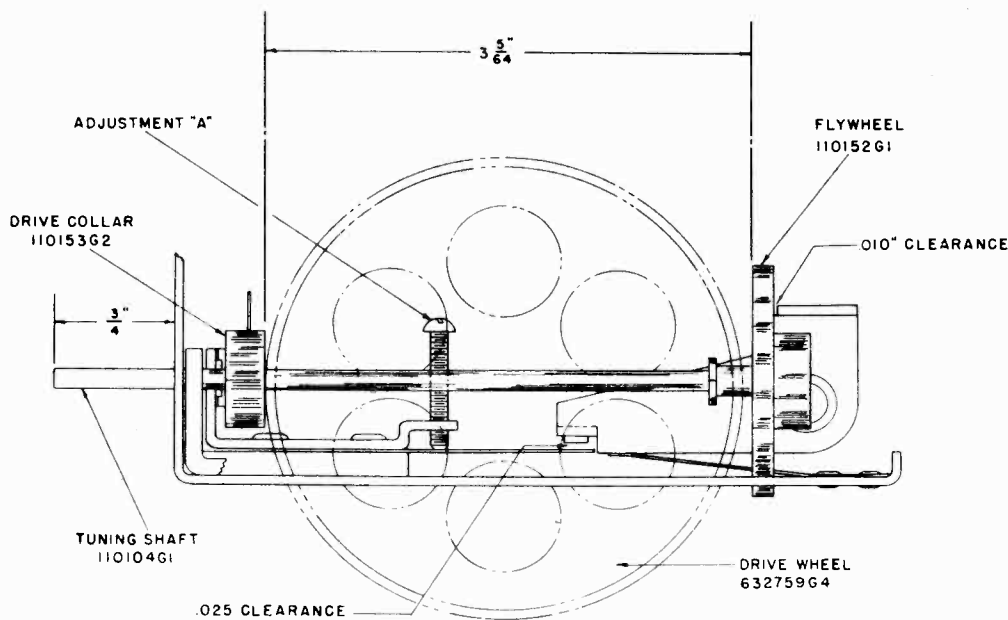
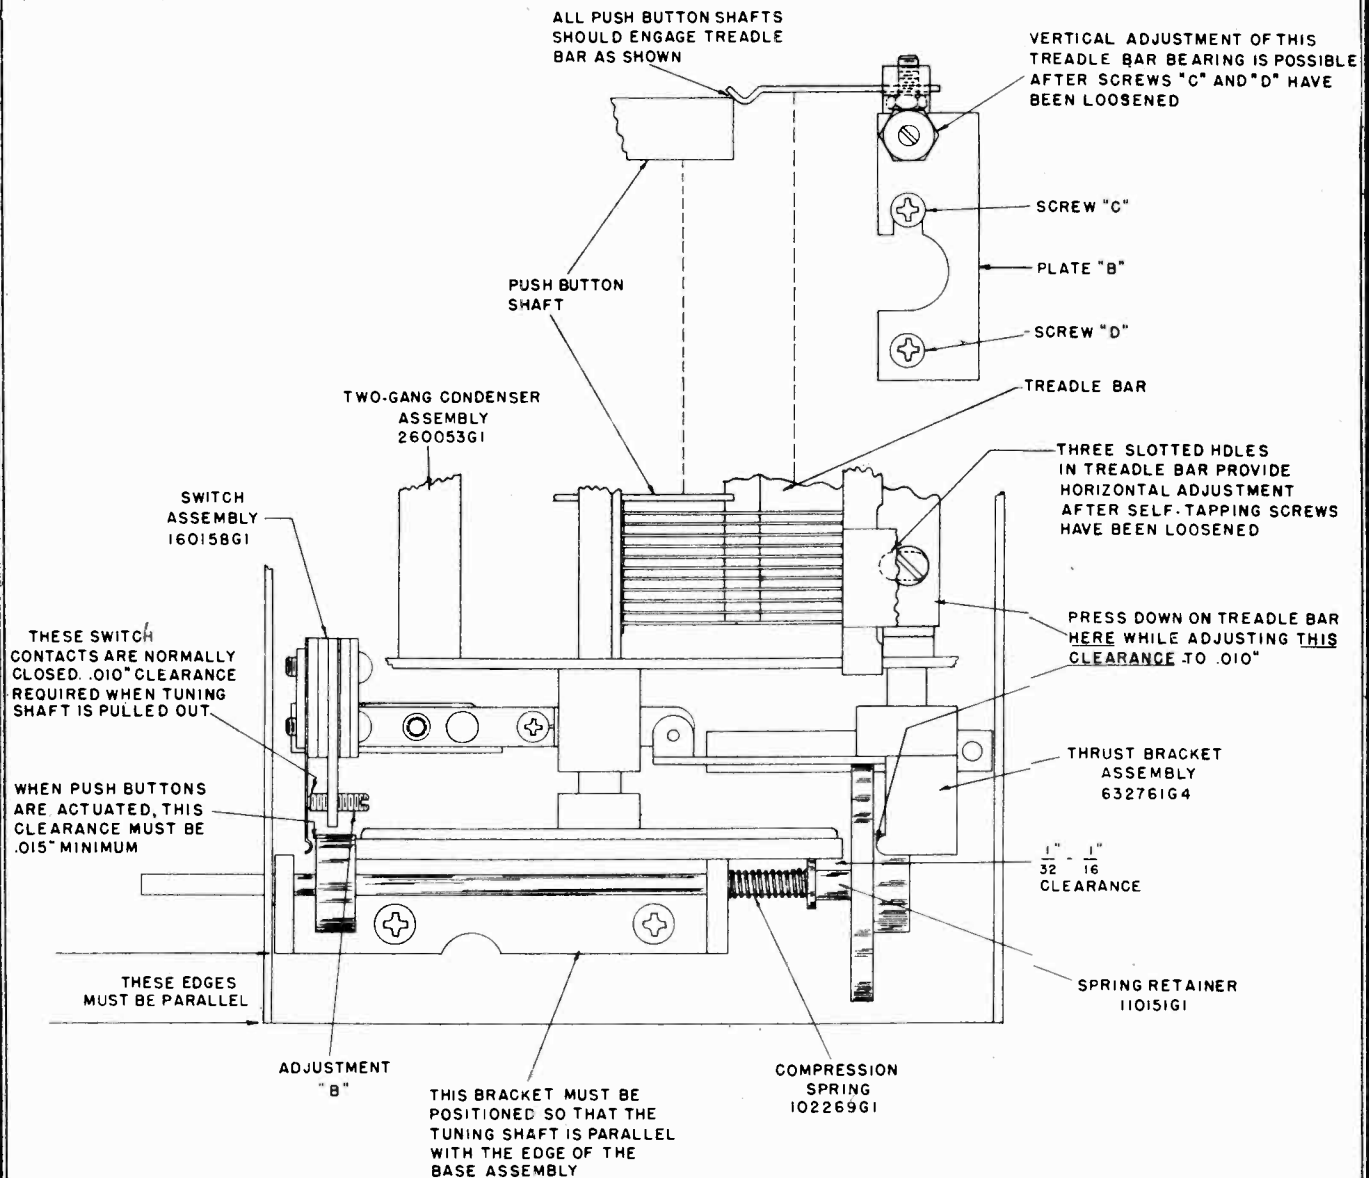

FIGURE 2
FIGURE 3
Whenever any of the mechanical parts in the condenser gang drive assembly require replacement due to rough handling or for any other reason, it is extremely important that clearances and adjustments shown on Figures 2 and 3 are affected; otherwise the tuning mechanism will be sluggish or it may slip during operation.
1. Assemble the Tuning Shaft, Drive Collar, Compression Spring, Spring Retainer and Flywheel in the manner shown on Figure 3. The Tuning Shaft must extend $\frac{3}{4}$ " from the front of the assembly and that the spacing between the rear of the Drive Collar and the front of the Flywheel must be $3\text{-}5/64$ " as specified on Figure 2. Any excess length in the Tuning Shaft may extend beyond the rear of the Flywheel.
2. The distance between the rubber-tired Drive Wheel and the smaller diameter section of the Spring Retainer must be $1/32$ " to $1/16$ ". This adjustment is effected by loosening the two No. 6 Allen set screws in the Drive Wheel hub and sliding the wheel on its shaft until the required clearance is obtained. When the adjustment is completed, tighten the two screws in the hub of the Drive Wheel. See Figure 3.
3. While pressing down on the Treadle Bar at the location shown on Figure 3, adjust the Thrust Bracket until the clearance between the rest of the Flywheel and the projection on the Thrust Bracket is $.010$ " as shown on the diagram. To make this adjustment, loosen the two No. 6 Allen set screws (use No. 6 Allen Wrench—Magnavox Part No. 800044G2) in the hub of Thrust Bracket and rotate the bracket until the specified clearance is obtained when the push buttons are NOT actuated. Tighten the two screws securely when the adjustment is completed. Press each push button and check that the Drive Collar is pushed away from the rubber-tired Drive Wheel.
4. Next, adjust the clearance in the muting switch contacts by turning the Phillips-head screw designated Adjustment "A" on Figure 2, until the specified clearance of $.025$ " is obtained (when the push buttons are NOT actuated.)
5. While pressing any one of the push buttons in as far as possible, turn the screw designated Adjustment "B" (Figure 3) until a minimum clearance of $.015$ " is obtained between the front surface of the Drive Collar and the switch spring directly in front of it. This setting should also cause a minimum clearance of $.010$ " between the switch contacts actuated
This can usually be accomplished by loosening the two screws designated "C" and "D" on Figure 3, and moving plate "B" in the direction required to correct this condition.